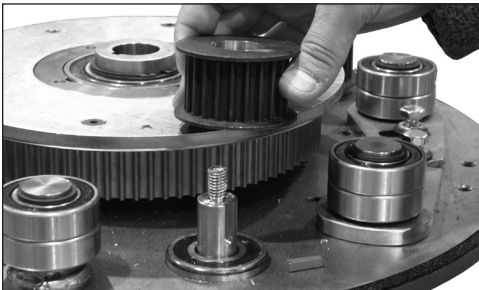

FIG. 6
3. Slide pulley up and off. Key will fall out (Figure 6).